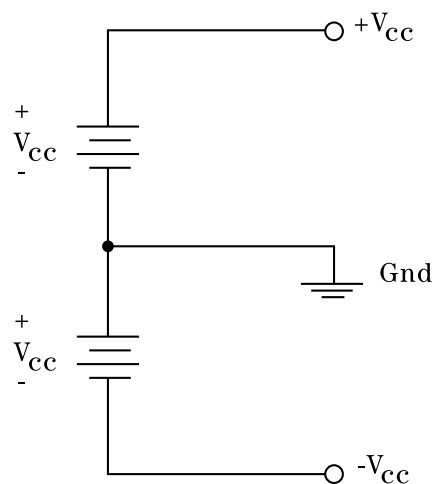

Figure 1
1. The schematic of Fig. 1 shows a standard  $\pm V_{cc}$  configuration for OP AMPs. The schematic symbols for a battery are used in this schematic to remind us that these supplies need to be a constant DC voltage. They are not signal sources.
As shown in Fig. 1, the jack labeled “COM” between the  $V_{CC}$  supplies is connected to circuit ground.